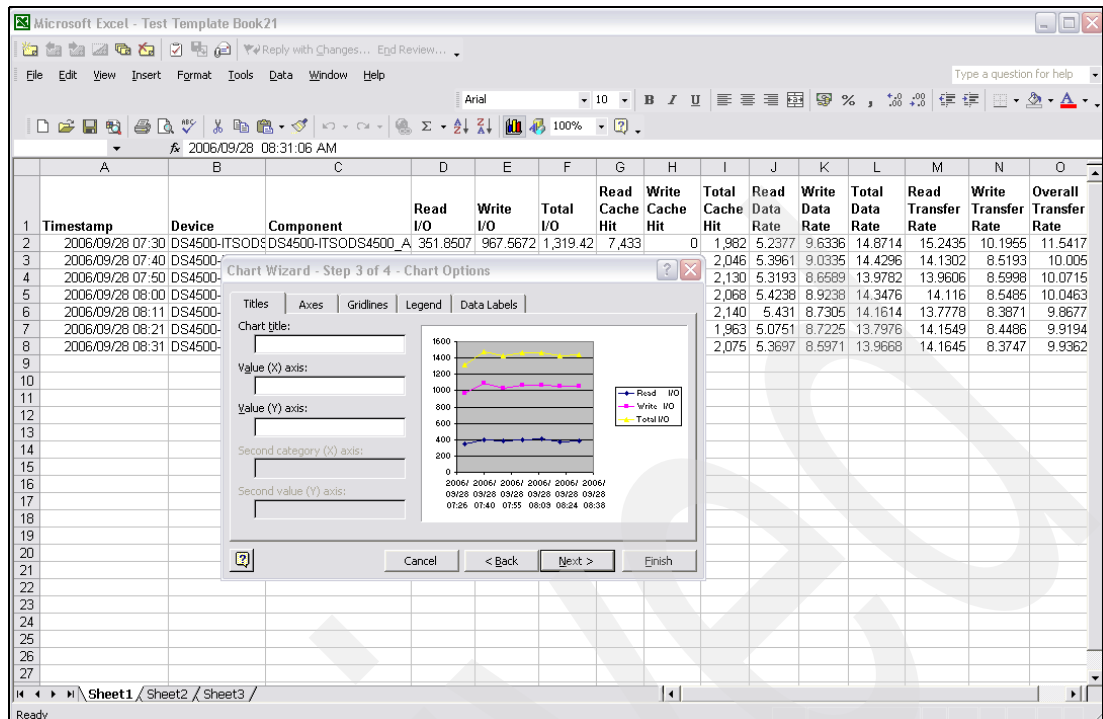

Figure 6-77 Step 3 of 4 - Chart Options
4. Select **Next** after you choose the graph type. The next window confirms the data range (step 2 of 4). Click **Next** as shown in Figure 6-77 on page 301.